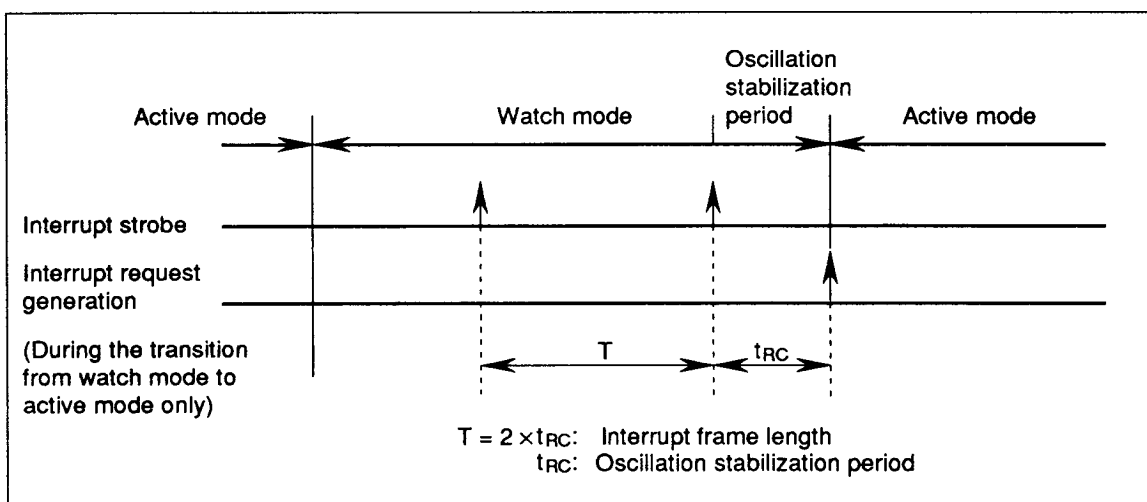
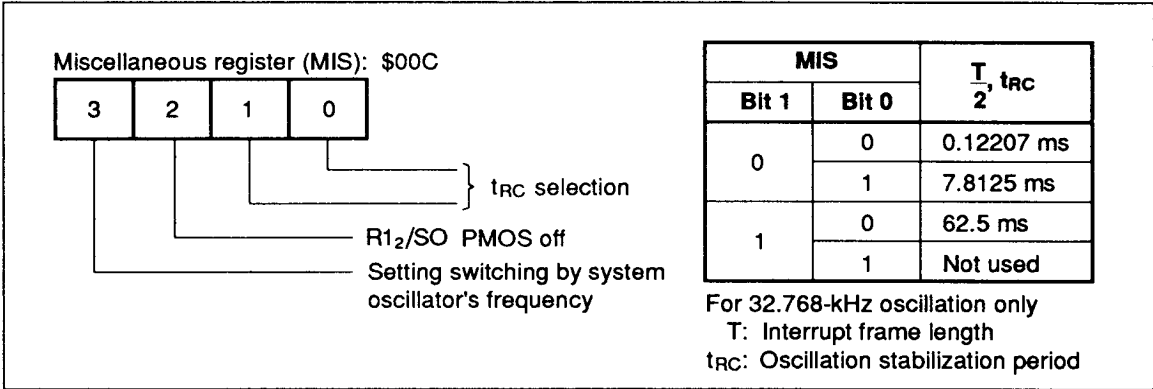

Figure 13 Interrupt Frame
Figure 14 Miscellaneous Register
Watch mode is terminated by a RESET input or a timer A/\overline{INT}_0 interrupt request. For details of RESET input, refer to the Stop Mode section. When terminated by a timer A/\overline{INT}_0 interrupt request, the MCU enters active mode if LSON is 0, or subactive mode if LSON is 1. Any interrupt request generated during the transition to active mode is delayed for half the interrupt frame period (t_{RC}), to give the oscillation time to stabilize, as shown in figure 13.
Interrupt Frame: In watch and subactive modes, timer A and \overline{INT}_0 interrupts are generated in synchronism with the interrupt frame. Three interrupt frame lengths (T) can be selected by settings of the miscellaneous register, as shown in figure 14. The time from an interrupt strobe to interrupt request generation is the oscillation stabilization period (t_{RC}), as shown in figure 13.